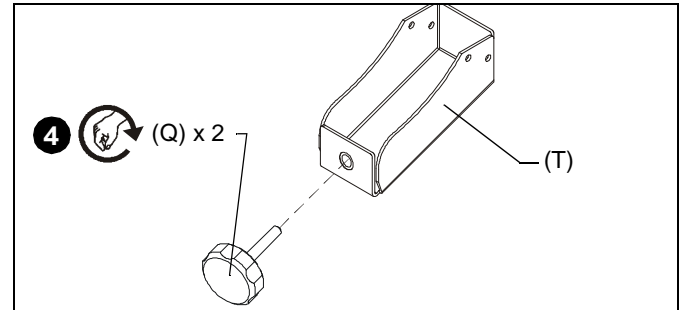

Figure 2
4. Add knobs (Q) to lower supports (T). (See Figure 2)